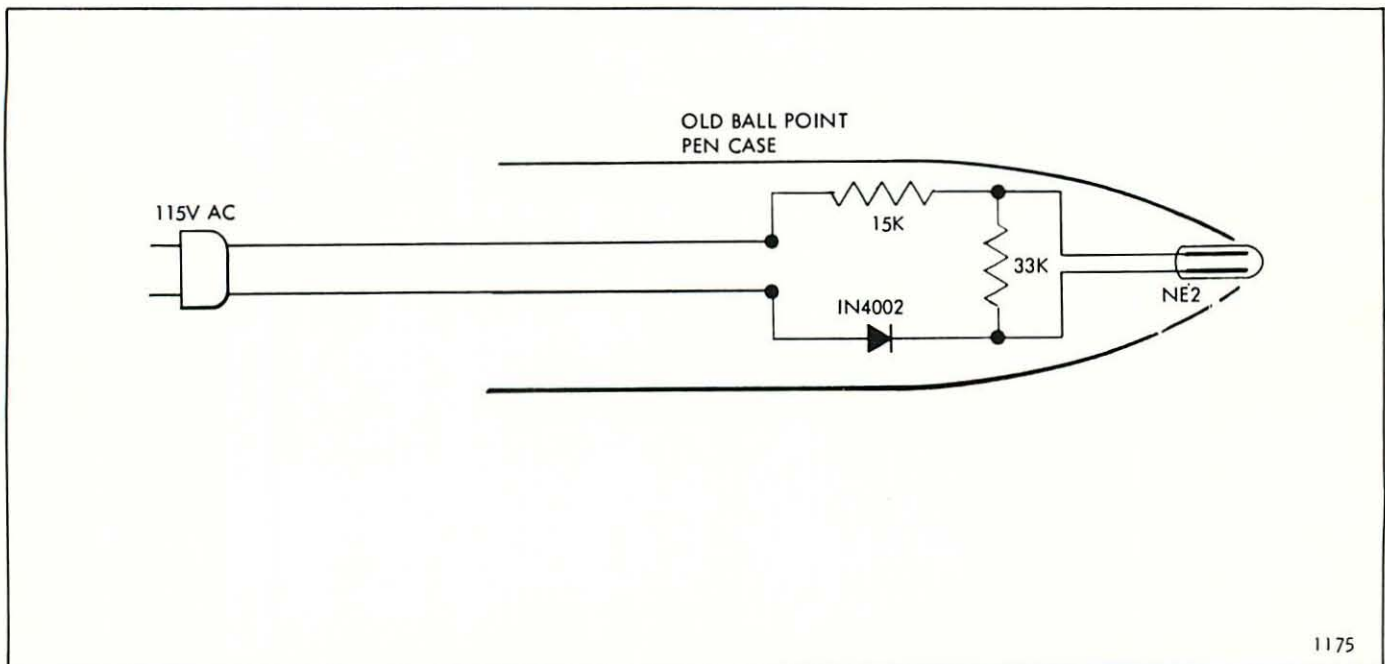

Figure 25. Example of Simple Stroboscope Lamp
10. A neon indicator operated half wave from the same frequency source as the capstan motor or a stroboscopic lamp triggered from the power line frequency should now be used to check the capstan speed by lighting the strobo disc. A simple but effective circuit is shown in figure 25. The capstan should appear to run slow; that is, the strobe pattern appears to rotate very slowly in a clockwise direction. Use an improvised wire pointer as a reference and observe how many dark or light elements appear to pass beneath it per minute. Use table 4 to determine speed error with a 48-element strobe wheel on the capstan.